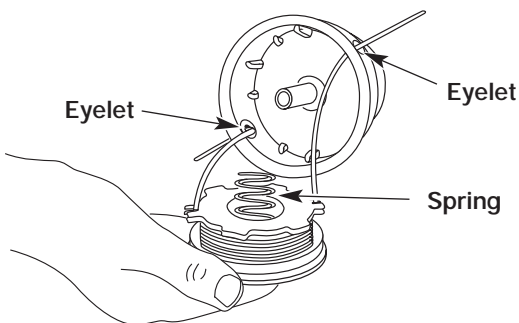

Figure 20
13. Insert the ends of the line through the eyelets in the outer spool and place inner reel with spring inside the outer spool. See Figure 20. Push the inner reel and outer spool together. While holding the inner reel and outer spool, grasp the ends and pull firmly to release the line from the holding slots in the reel.
5. Insert the ends of the line through the eyelets in the outer spool. See Figure 20.